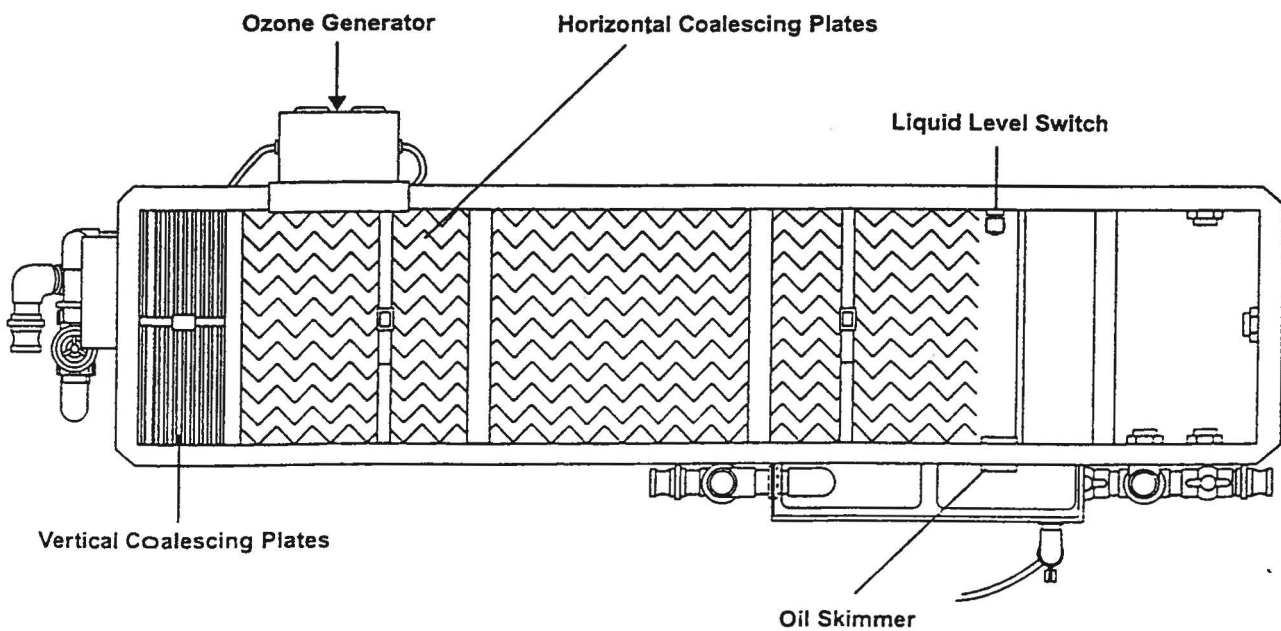

Figure 7
- ♦ Check the overflow shutoff switch by manually lifting the liquid level switch (see Figures 7, 8 & 9).
- Remove the vertical coalescing pack (see Figures 7, 8 & 9 for location). To remove, lift with the nylon strap that surrounds the coalescing pack.